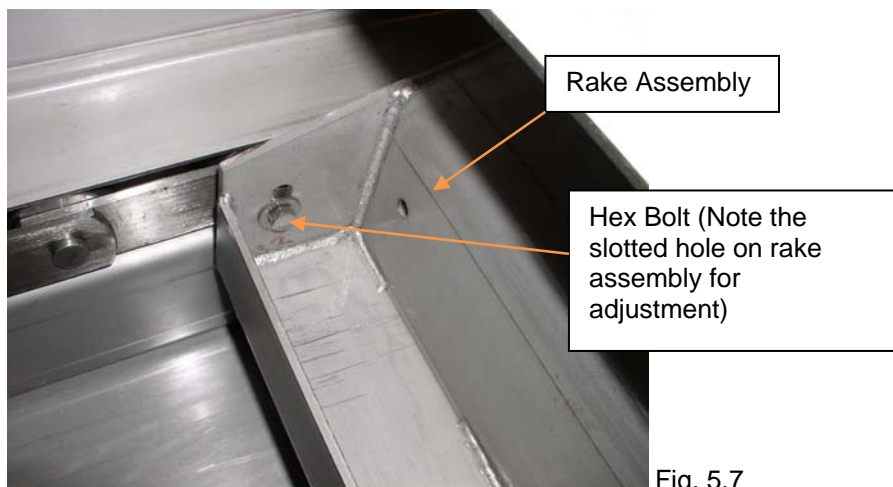

Fig. 5.7
- Loosen both bolts on the inside of the rake pan as shown in figure 5.7 (one on each side of the screen).
The tension system consists of two adjustment brackets, sliders, an adjustment screw and nuts. There are two of these tension systems, one on each side of the frame and all adjustments must be made equally on both sides. (See figure 5.7.A for details.)
The wiper is cushioned to the stop position by a pair of adjustable stop bolts (See Fig. 5.7.B). The position of these bolts determines the wiper's "stop" point. To adjust the stop, loosen the nuts and rotate the bolt until the wiper assembly has the proper range of motion that does not allow the wiper to bind with the rake.